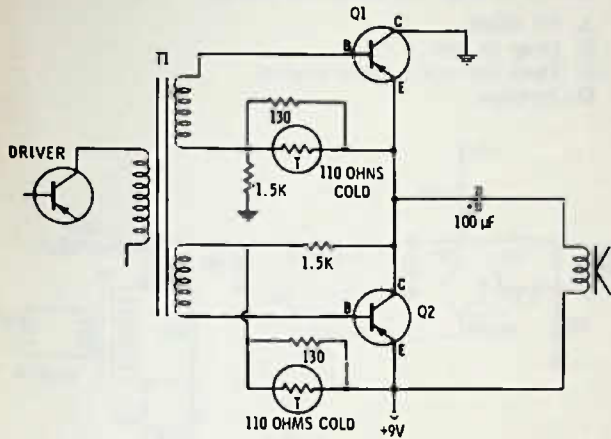

Fig. 12-19. Circuit for Questions 38 through 43.
38. Fig. 12-19 is
39. The notes by the thermistors in Fig. 12-19 indicate that they measure 110 ohms cold. If they are heated, their resistance would
40. In Fig. 12-19, when the signal voltage is positive-going on the base of Q1,
41. In Fig. 12-19, so far as the speaker is concerned,
42. In Fig. 12-19, if the output signal is distorted—that is, difficult to understand—you might expect that one of the transistors was not working. If Q1 were shorted (collector to emitter),
43. In Fig. 12-19, suppose Q2 should open or should lose its bias